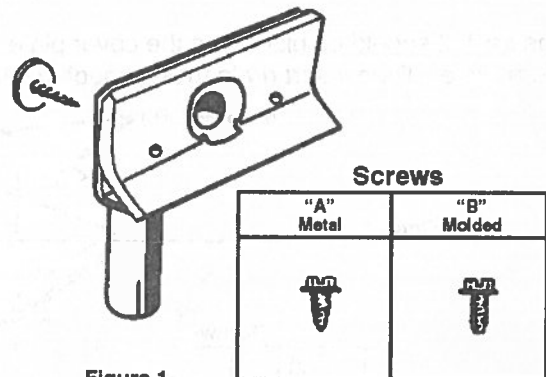

Figure 1
1. The gasket should be placed on the cover plate (with 1/2" hole) with screw holes in gasket lined up with screw holes in cover plate. Then insert drain tube (from gasket side) through gasket and cover plate, as shown in Fig. 1.
2. After location of Drain Kit is determined, locate and drill 3 holes per template. (Fig. 1). Repaint edges of drilled holes on metal cabinet to prevent rust or corrosion.